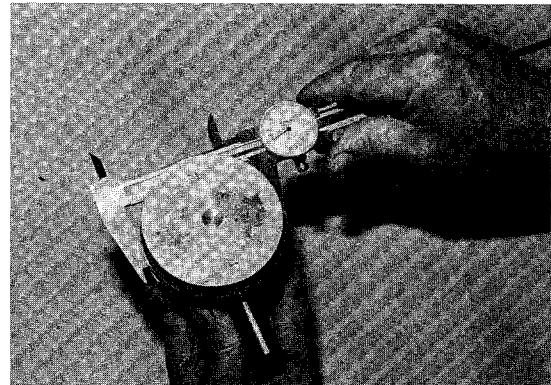

Figure 6-18
6. Measure piston at bottom of skirt, 90° from piston pin (**Figure 6-18**).